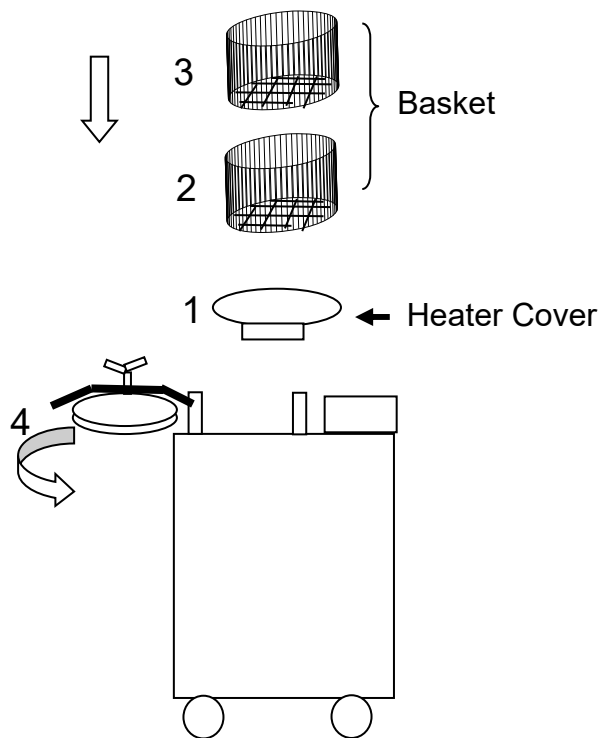

Figure 4-1
2. Place the baskets into the chamber is as following figure 4-1: